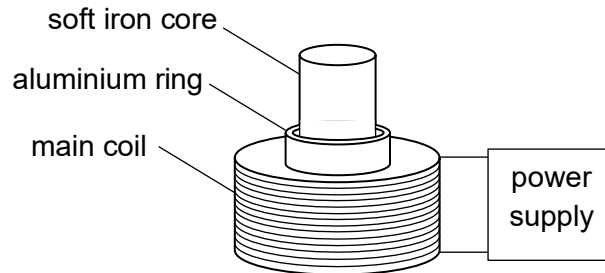

Fig. 5.1
- 5 (a) A main coil is made of a coil of wire wound round the end of a soft iron core, as shown in Fig. 5.1. The main coil is connected to a variable power supply.